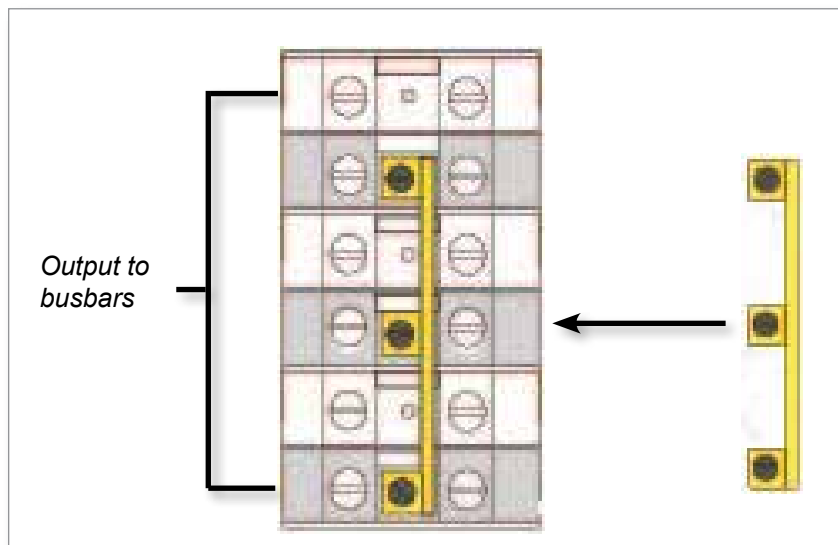

Figure 9-2 Install the 3-way link
2. Install the one 3-way link. Refer to Figure 9-2.